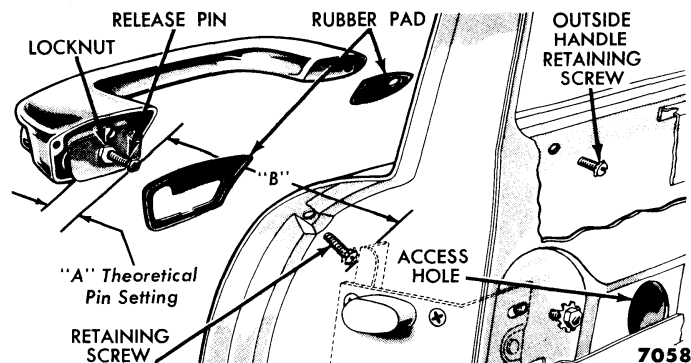

Fig. 8—Outside Door Handle
(1) **REPLACEMENT.** Remove the door trim panel. Working through the access hole provided on the door inner panel, remove the screw from the outside door handle (fig. 8). Remove the screw located at the face of the door just above the door lock, then remove the door handle.
(2) **ADJUSTMENT.** The outside door handle is provided with an adjustment to maintain the correct clearance between the face of the door lock release lever and the release pin on the door handle (fig. 8).
To make this adjustment, remove the outside door handle. Loosen the lock nut at the release pin, and either lengthen or shorten the release pin until the required length is obtained ("A" fig. 8).
Door handle release pin length settings are one inch for the front door and $\frac{5}{16}$ inch for rear doors. This will give a clearance of $\frac{1}{32}$ – $\frac{1}{16}$ inch between the release pin and the door lock release lever when the handle is installed ("B" fig. 8).